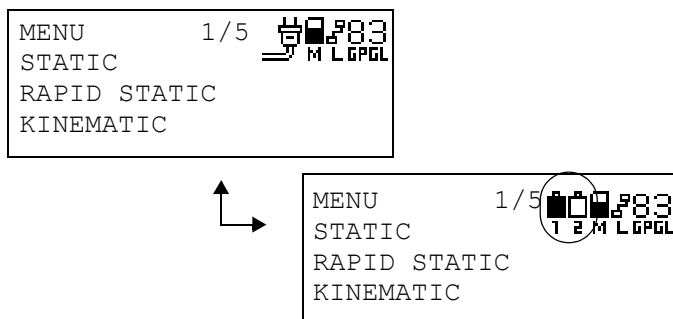

Figure 2-9. Display – Charge Complete with a Bad Battery
- Completion of run charge with bad battery (Figure 2-9):